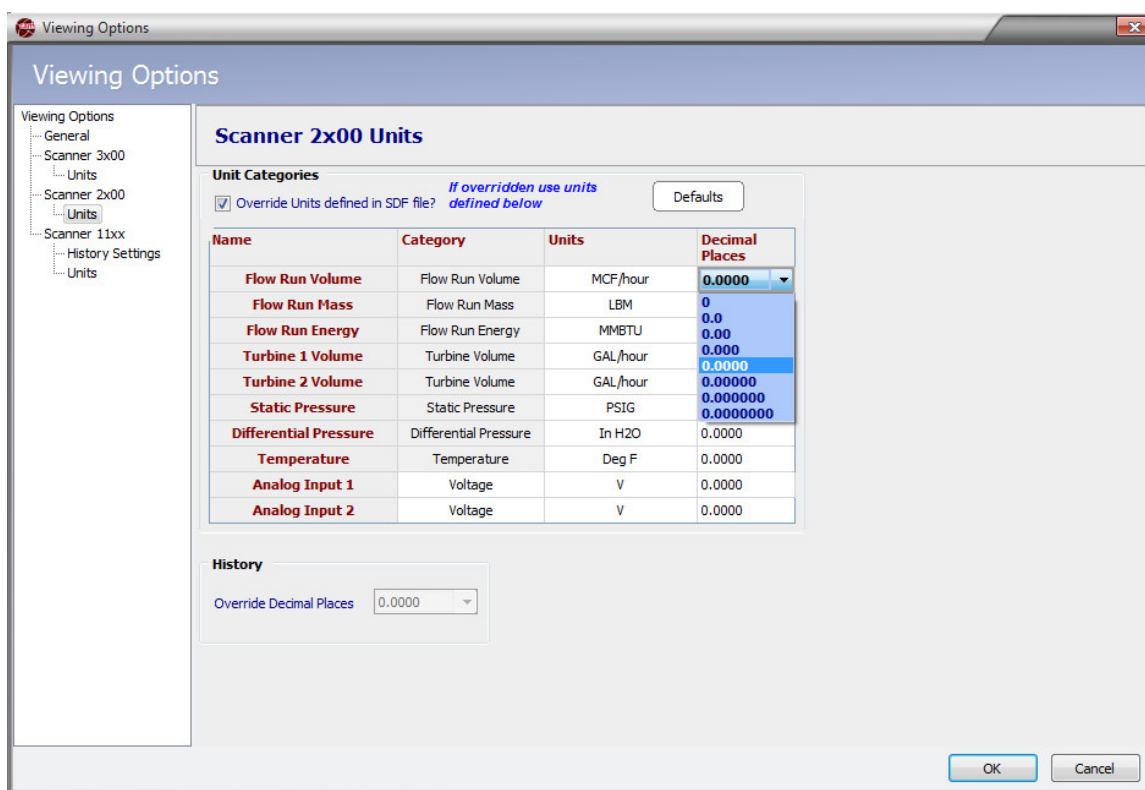

Figure A.2—Scanner 2x00 unit override screen
From the Scanner 2x00 *Viewing Options* dialog (Figure A.2), the user can change the unit, rate, decimal position, or category of a parameter and override the unit in the SDF file.
1. Check the **Override Units** checkbox near the top of the screen to make the unit selections editable (Figure A.2).